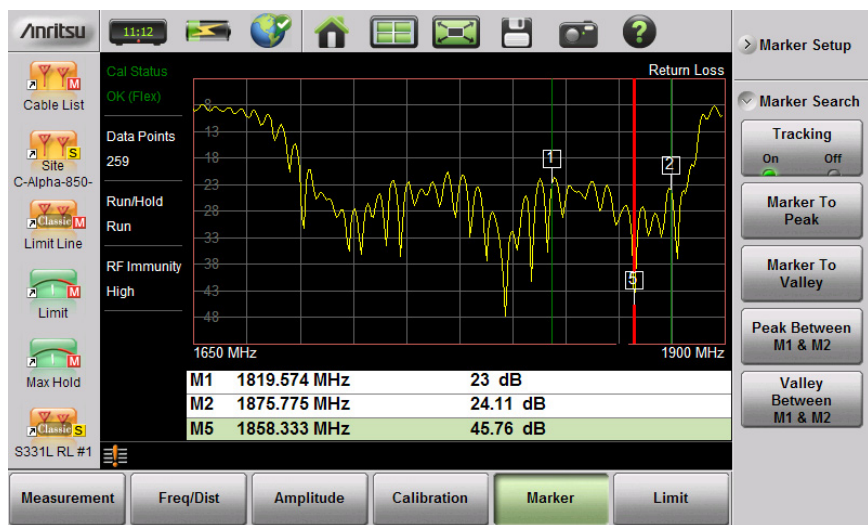

Figure 3-32. Bounded Marker Search
4. In Figure 3-32 on page 3-41, Marker 5 moved to the valley bounded by M1 and M2 instead of the lowest point (48 dB) to the left of Marker 1. The valley search would also work if M1 and M2 were set and then turned off.